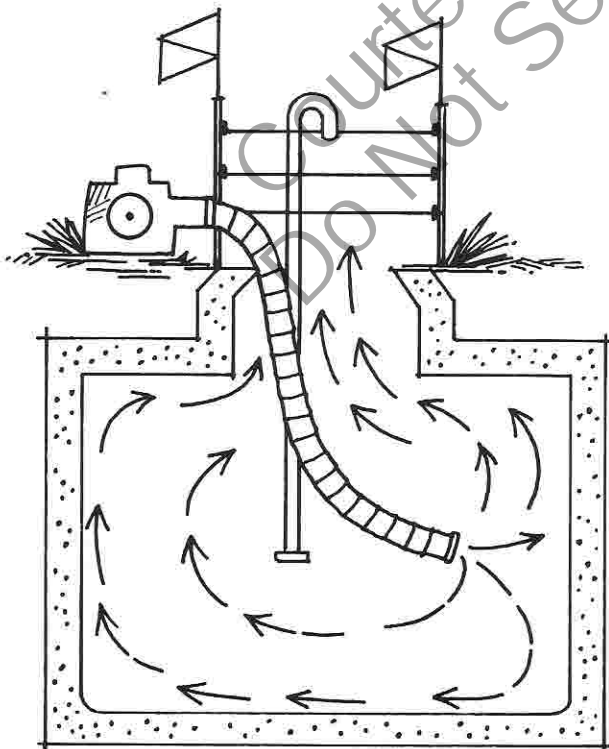
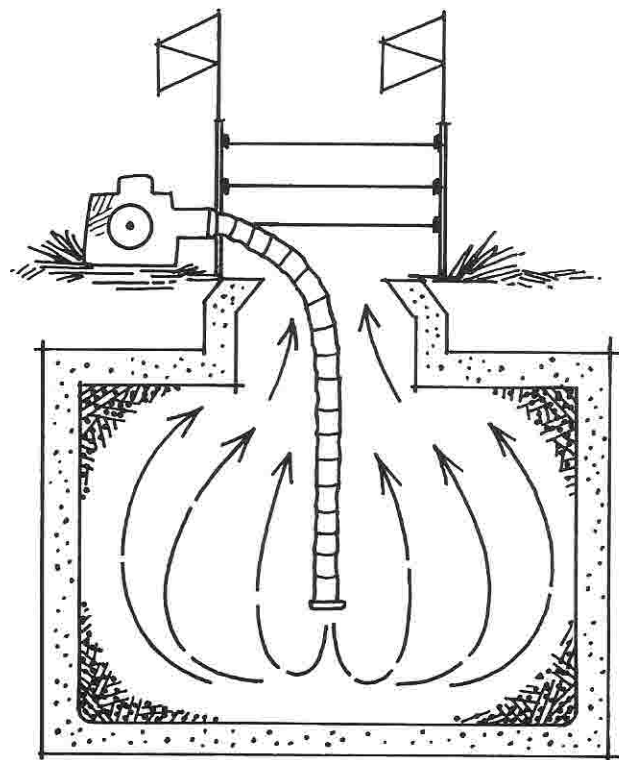

Figure 1
Figure 2
4. The most effective position for the blower output end is to tie the duct to a support or cable rack midway up the wall with the duct opening directed at one wall. As can be seen in Figure 1, this position provides an even air distribution and will tend to eliminate dead air spaces where harmful or hazardous gases may accumulate (see Figure 2.)